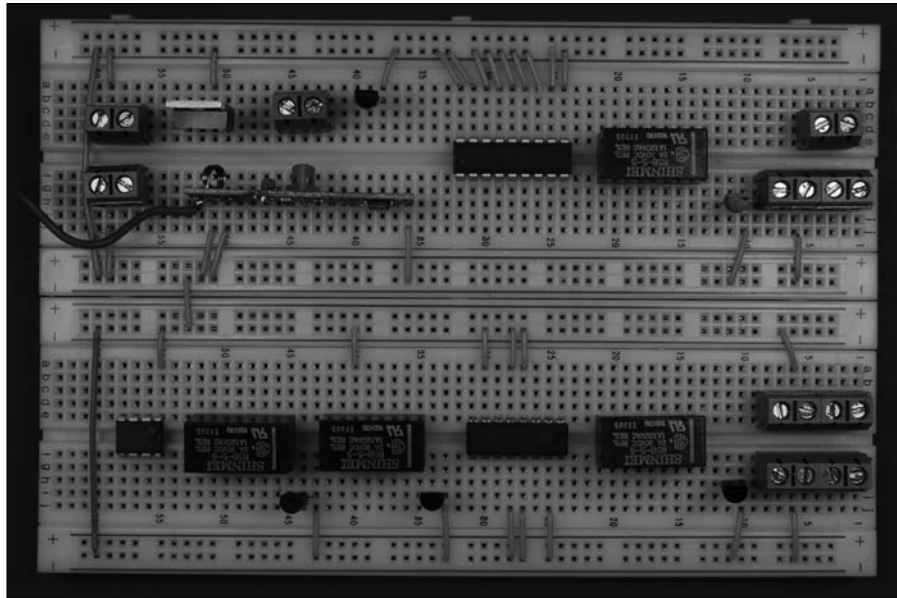

Figure 13-21:
- 4. Insert wires to connect the ICs, voltage regulator, transistors, relays, and terminal blocks to the ground bus. Then insert wires between the ground buses to connect them, as shown in Figure 13-21.**